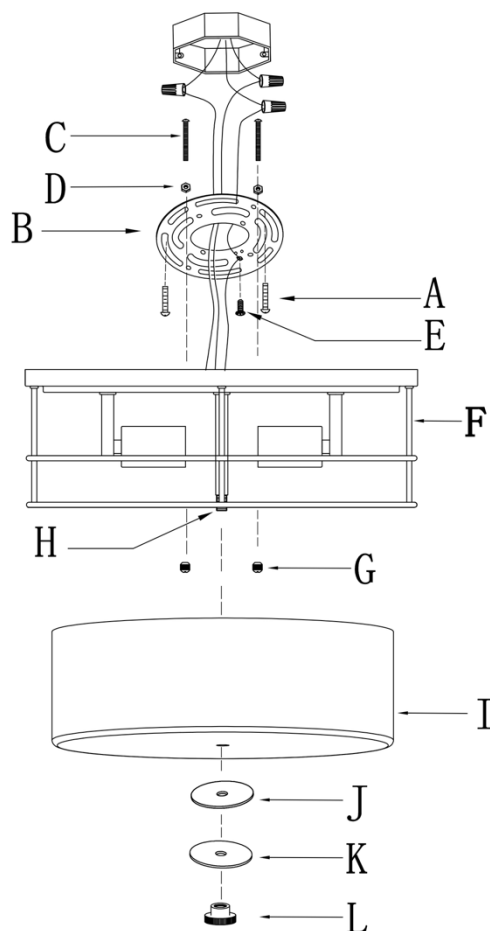

Fig. 2
CONNECTING THE WIRES (Fig. 2)
5. Connect electrical wires as shown in Fig.2, making sure that all wire connectors are secured. If your junction box has a ground wire (green or bare copper), connect the fixture's ground wire to it. Otherwise, connect the ground wire directly to the mounting plate (B) using the green screw (E) provided.